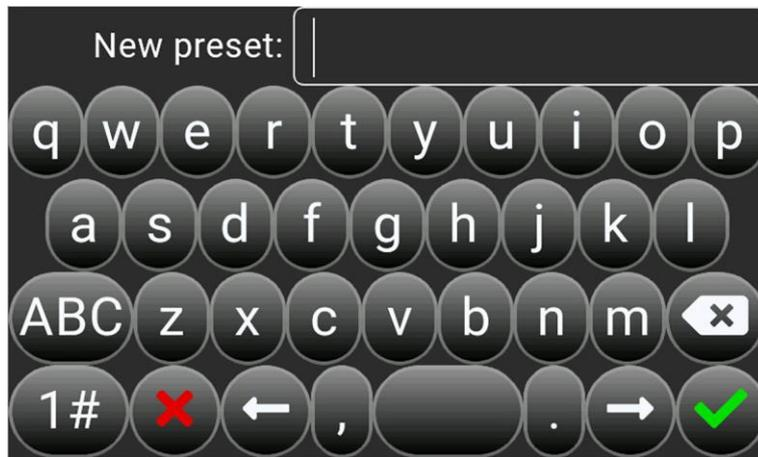

Figure 10.8 – Assigning a name to a new user setting
-  -Save the current settings. Go to the menu to assign the name of the setting (Figure 10.8);